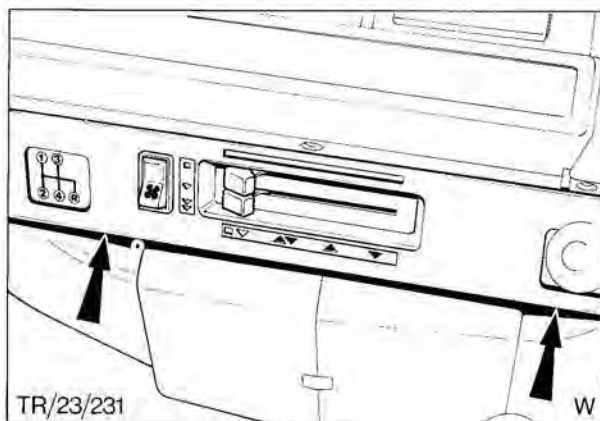

Fig. 87. Heater panel securing screws
5. Remove two screws and detach heater control panel, Fig. 87.
10. Refit heater control panel, Fig. 87.